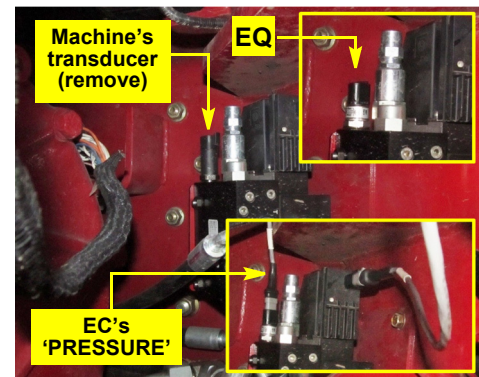

Figure 3g: Pressure transducer replacement
- h. Locate the machine's existing PVE pressure transducer in the PVE block (Figure 3g - see also step 3g). Remove it and install replacement transducer EQ (Figure 3g top inset). Connect EC's branch cable labeled 'PRESSURE' to the newly installed transducer (Figure 3g bottom inset).